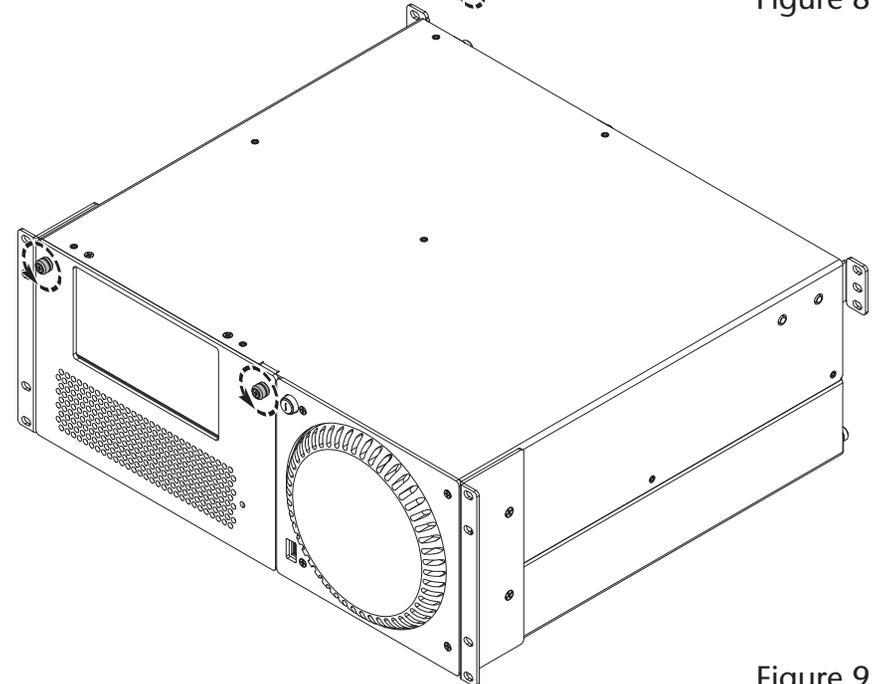

Figure 9
4. Loosen the two thumbscrews securing the PCIe card expansion module to the front of the rackmount enclosure (**Figure 9**).